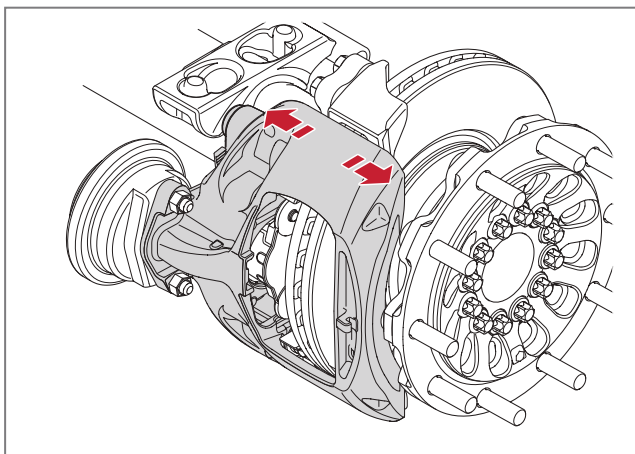

Fig. 31 - Free mobility of the brake calliper, must be able to slide freely on the guide pin.
2. Once the brake pads are removed, move the brake calliper by hand back and forth to check its movement, see ► Fig. 31.